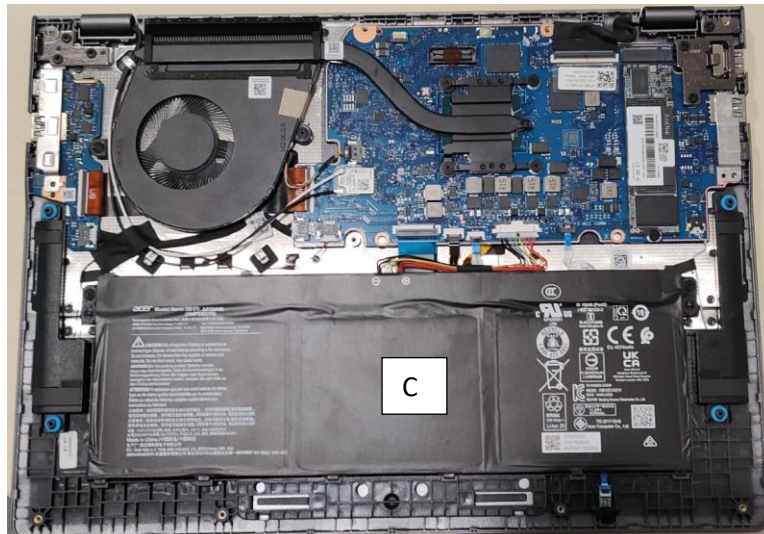

Figure 3-7. Battery Pack Removal
3. Detach the transparent mylar (C) securing the battery cable (Figure 3-7).
4. Disconnect the battery cable from the mainboard connector (C) (Figure 3-7).